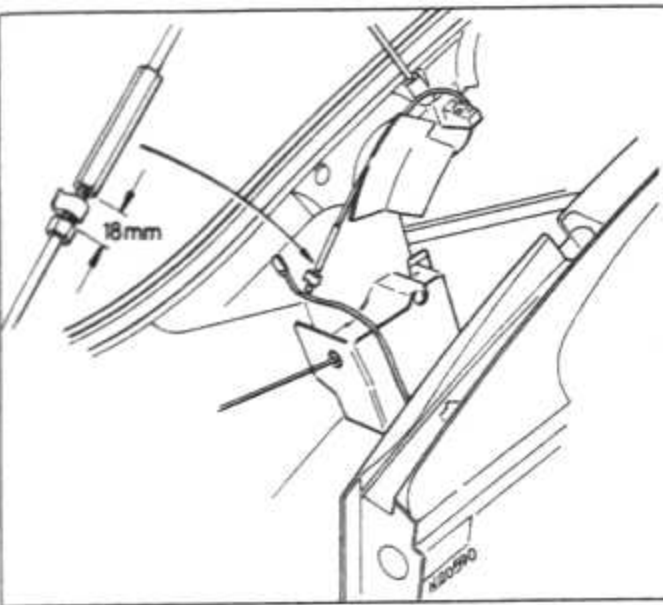

Fig. 13.64 Rear side window cable adjustment diagram (Sec 19)
- 5 To ensure proper operation, the adjuster should be set to 18.0 mm (0.711 in) as shown in Fig. 13.64.